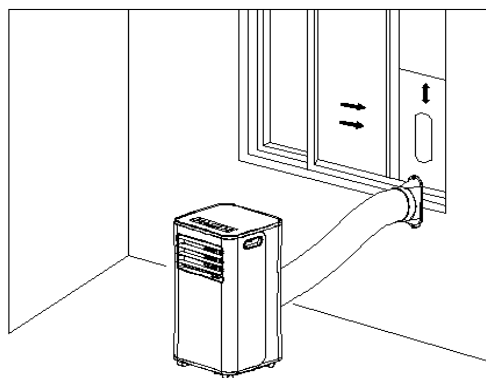
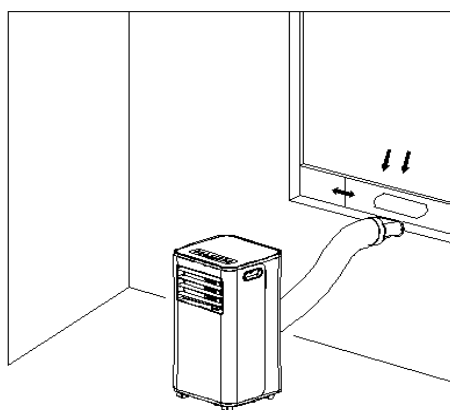

Fig. 5
Fig. 6
- 2) Extend the outlet piping and attach the flat end of the piping to the opening in the window sealing plate assembly (see Fig. 5 and Fig. 6).